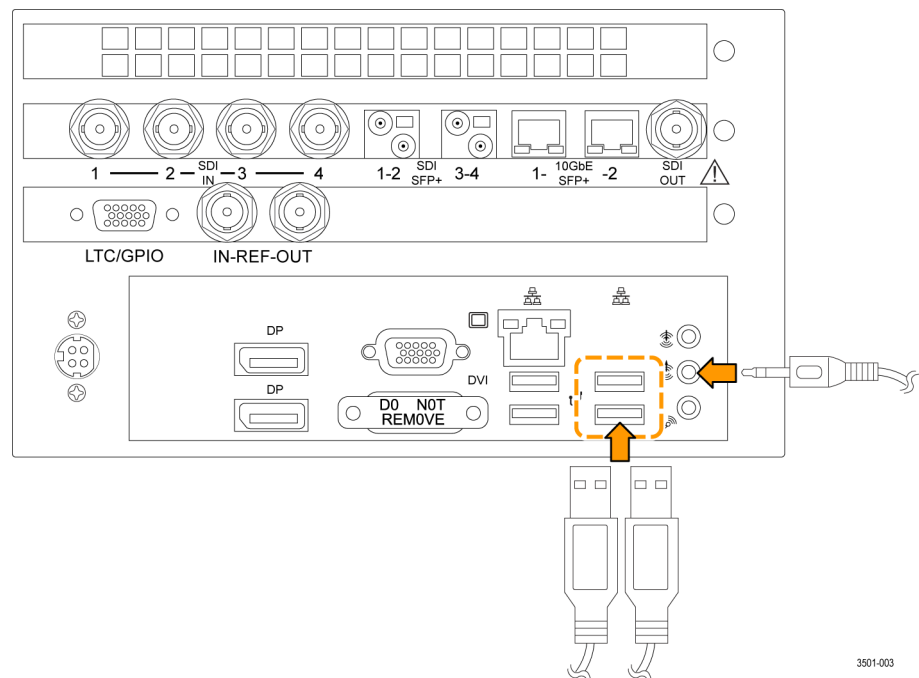

Figure 4: Connecting the rack cabinet USB and audio cables to the MPI monitor
- b. Use two screws (item 3 in Table 2) to secure the instrument in the dual rack cabinet. The screws attach to the top right and bottom left holes in the instrument chassis as viewed from the rear.
- c. Connect the cables from the USB ports and headphone jack on the dual rack cabinet to the rear of the instrument. (See Figure 4.) You can connect the USB cables to either set of USB ports on the rear panel.